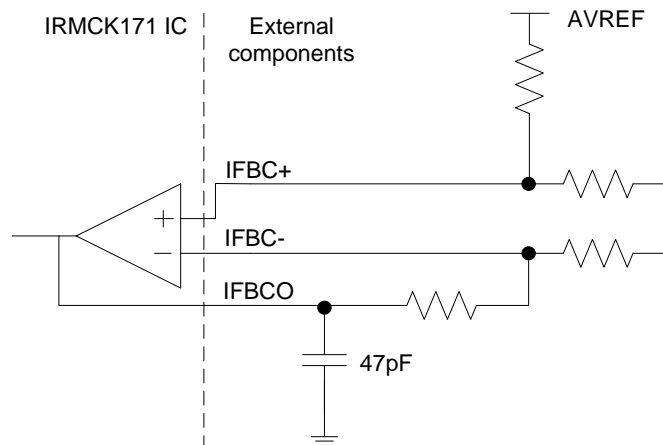

Figure 5 A capacitor of 47pF is recommended at the output pin of all op amps.
- (1) Data guaranteed by design.
- (2) To guarantee stability of the operational amplifier, it is recommended to load the output pin by a capacitor of 47pF, see Figure 5. Here only the single shunt current amplifier is show but all op amp outputs should be loaded with this capacitor.